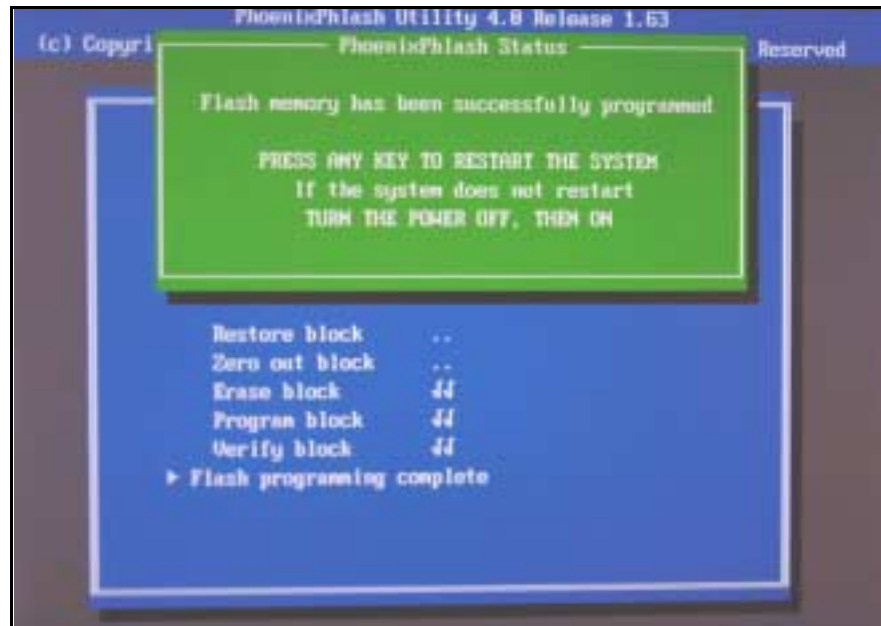

Figure 4-6 Phlash Window
10. Once Phlash program is completed, verify message “Phlash memory has been successfully programmed” is displayed in PhoenixPhlash Status box (see Figure 4-6).